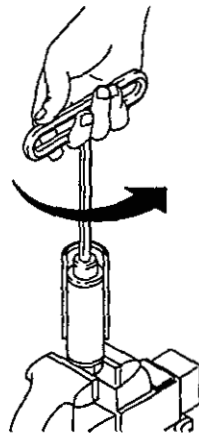

Fig. 29
10. To remove the sleeve from the sleeve removal tool, clamp the bottom nut of the tool in the vise. Place the wrench (A) in the top nut and turn it counterclockwise to collapse the tool. Remove the sleeve. See Fig. 29.